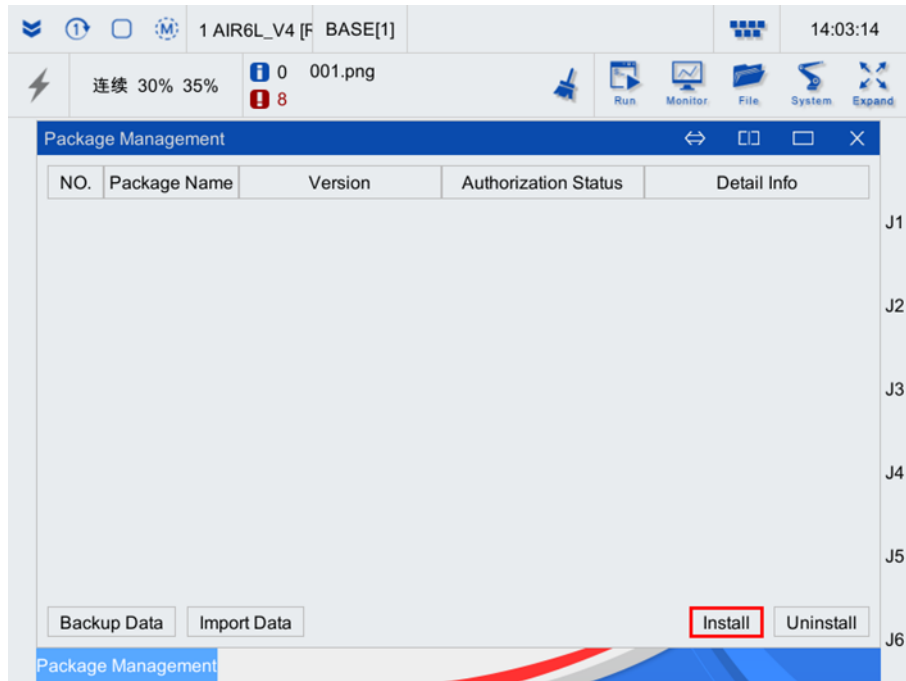

Fig. 3-2 Management interface of feature pack
Step 4. Click "Package Management" to pop up the package management interface shown in Fig. 3-2.